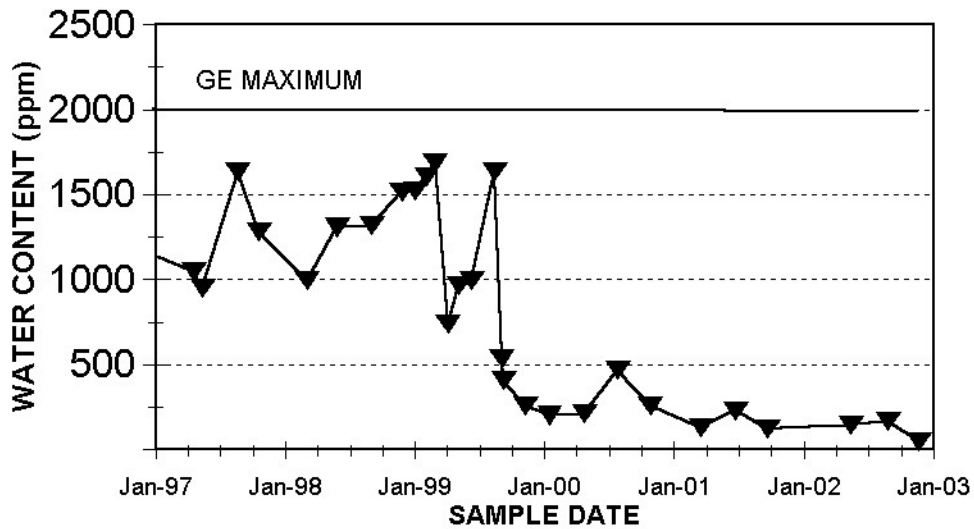

Figure 2: Water Content.
**Water Content:** Currently very low averaging about 200 over the year which is also good. It is well below the GE maximum of 2,000 ppm and most likely reflects the use of purge air on the reservoir. See Figure 2.